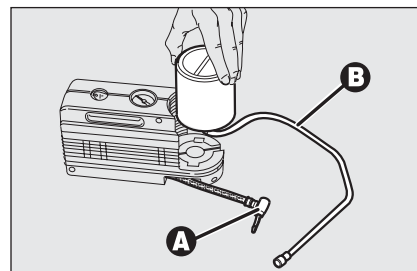

fig. 20
- ☐ disconnect connection **A**-fig. 20 and hose **B**;